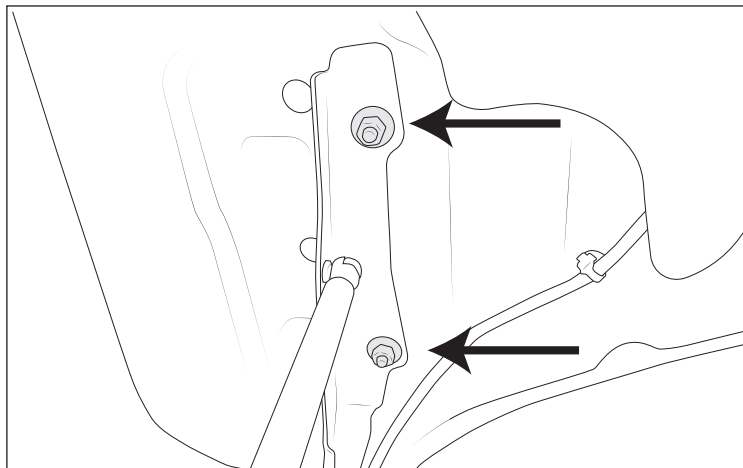

Figure 2
- B. Loosen the four (4) 13 mm nuts on the hood hinges (fig. 2).